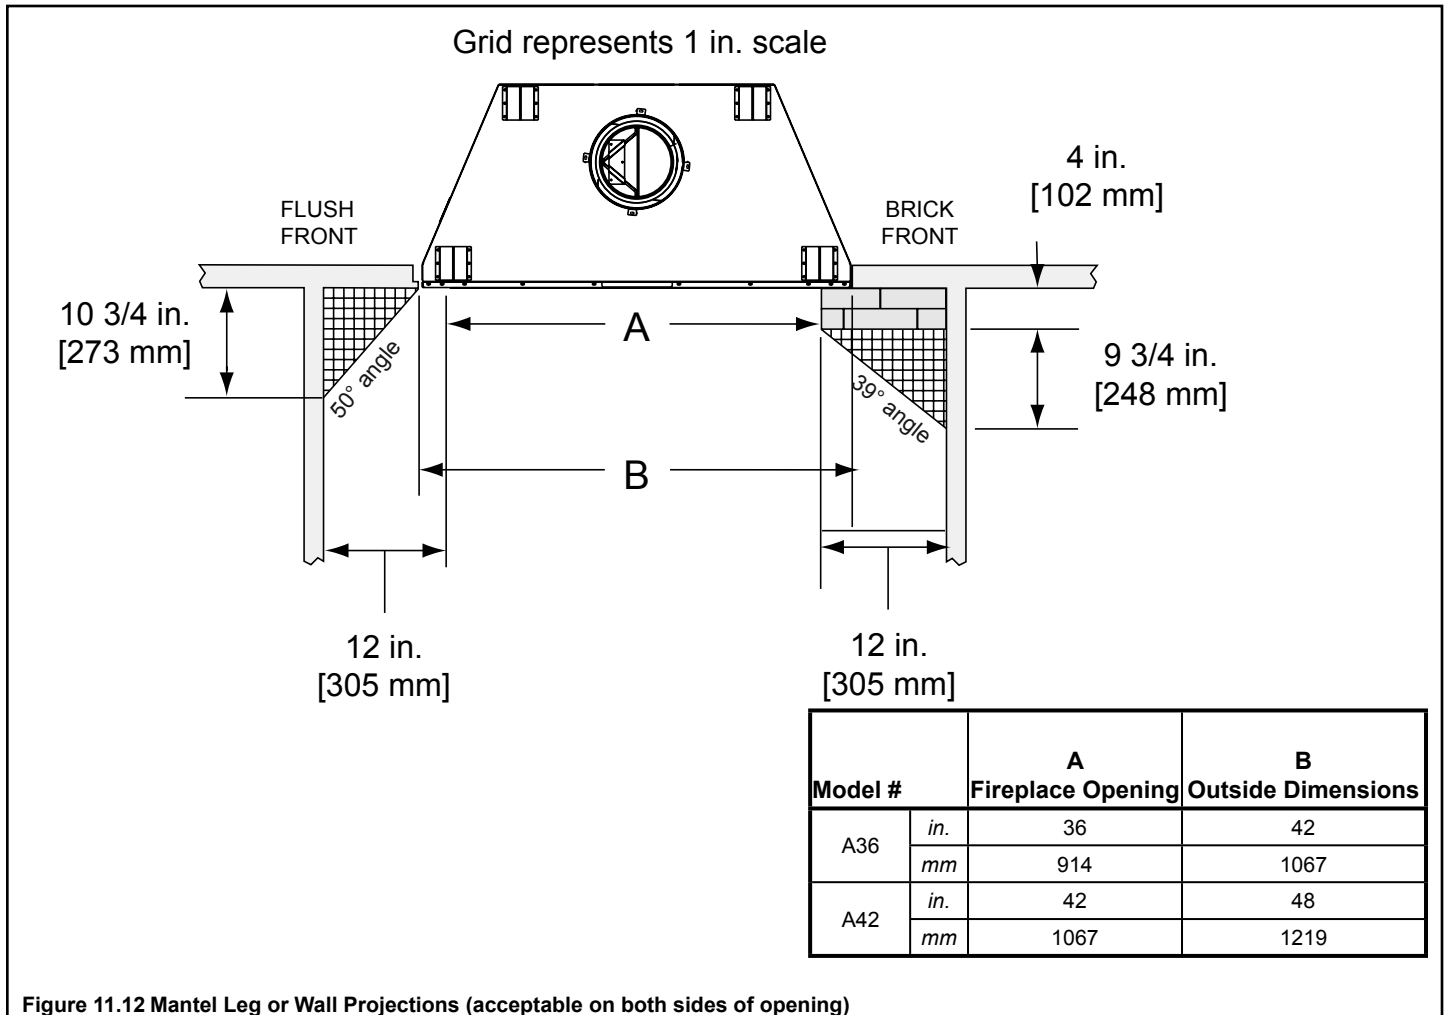

Figure 11.12 Mantel Leg or Wall Projections (acceptable on both sides of opening)
- Combustible or noncombustible mantel legs, surrounds and stub walls may be constructed per Figure 11.12.